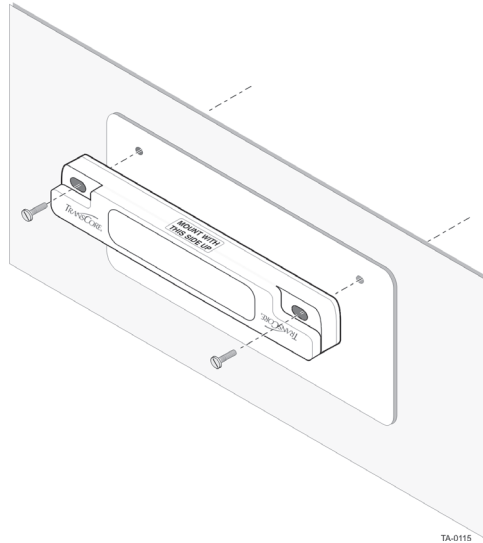

Figure 19 Upper Placement over the Top Area of the License Plate
4. Fasten the LPT to the bumper using the license plate mounting screws (Figure 19). Install the LPT over the top area of the vehicle's license plate if your vehicle has a front license plate. If your state does not require a front license plate, install the LPT in the area where a license plate would normally be mounted.